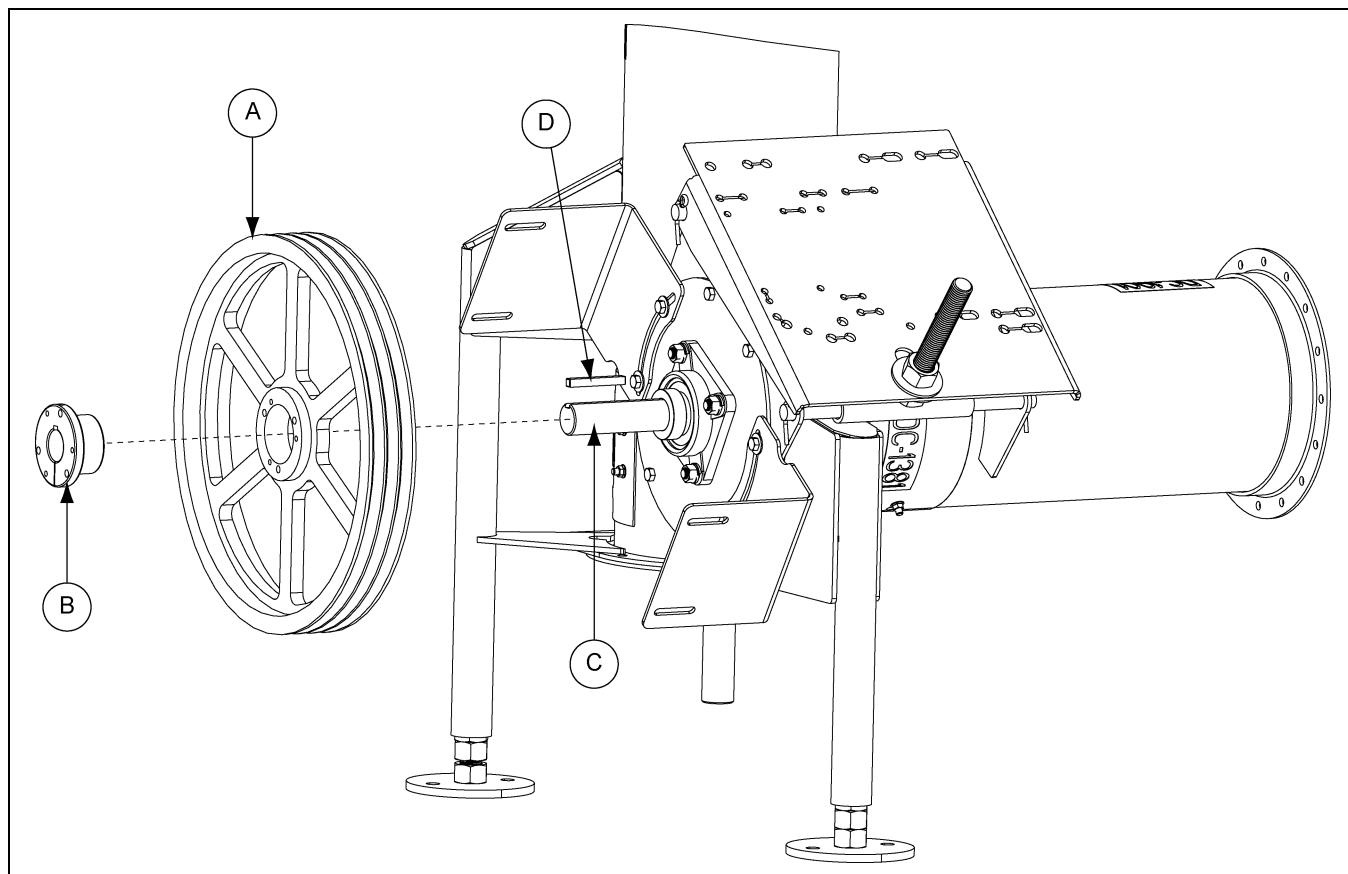

Figure 3N
- A. Place and position the *key (D)* into the keyway located on the *drive shaft (C)*.
- B. If applicable, assemble the supplied *sheave bushing (B)* to the *flight pulley (A)*. Place the *flight pulley (A)* onto the *drive shaft (C)* with the set screw side of the *flight pulley (A)* facing away from the bearing plate. Position the *flight pulley (A)* close to the lock collar, but ensure it is not in contact.
- C. Once the *pulley* is appropriately positioned, tighten the set screw with a hex head wrench to secure it to the *drive shaft (C)*. (See Figure 3N below and Figure 3O on Page 27.)